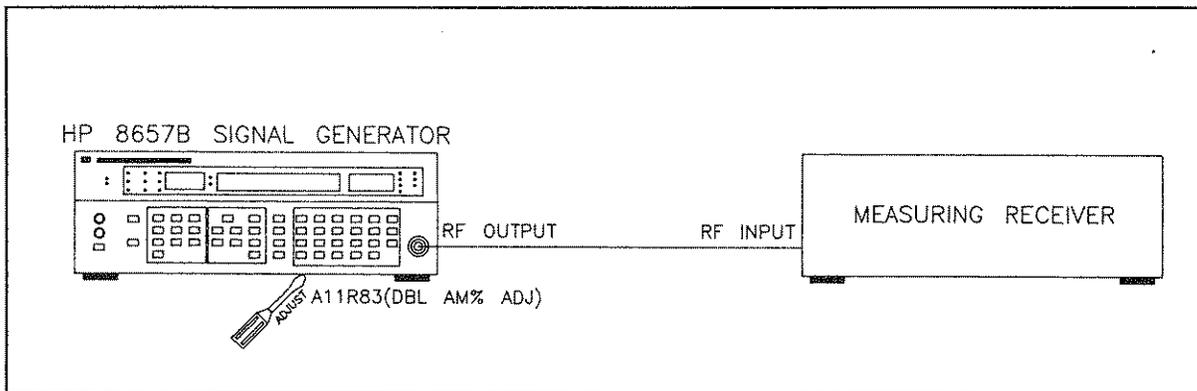

Figure 5-19. AM% and ALC Loop AM Adjustments Setup
4. Connect the HP 8657B RF OUTPUT to the measuring receiver INPUT, and the HP 8657B MOD INPUT/OUTPUT to the audio source OUTPUT as shown in Figure 5-19. The HP 8657B LO EXT and HI EXT LED's should be out. Also insure that the HP 8657B INT 1 kHz modulation source is turned off.